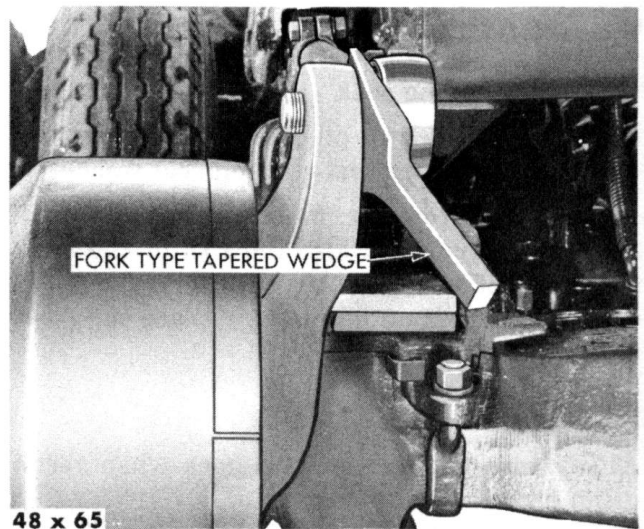

Fig. 139—Removing Upper Torque Rod (Axle Housing End) Fork, DD-1091
- (1) Remove the wheel and tire assemblies if necessary and remove nut and washer from the axle housing bracket end of the torque rod pin.
- (2) Insert a suitable fork type tapered wedge between the housing bracket and the shoulder of the pin and remove the torque rod and pin assembly, as shown in Figure 139.